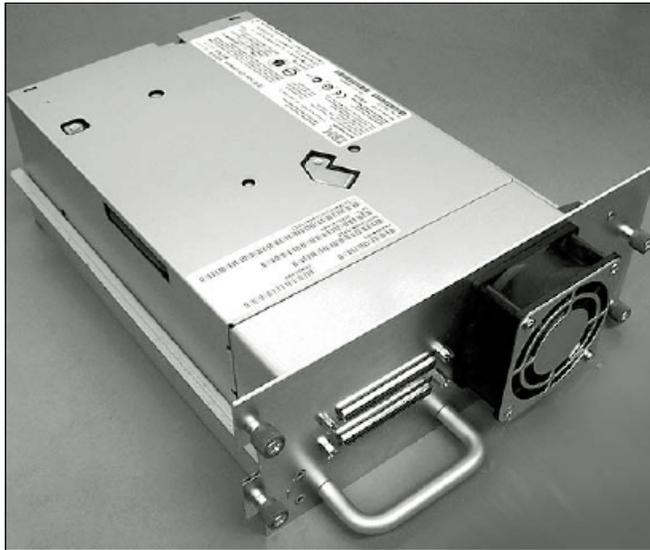

Figure 6-5 Ultrium Drive Sled
Figure 6-5 on page 149 shows the Ultrium 4 Tape drive sled with a SCSI interface. A similar drive sled is also used for the 4 GB Fibre Channel (FC) drive and the SAS drive.